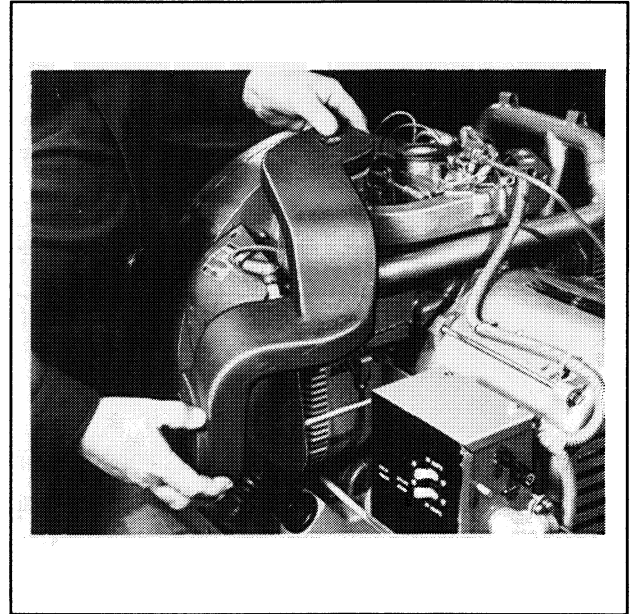

Figure 8-2. Removing Air Duct
4. The air duct is secured by one screw at the carburetor air intake and two nuts w/washers at the controller mounting bracket. Remove the fasteners at these points to remove air duct. Figure 8-2. Remove gasket from carburetor air intake.